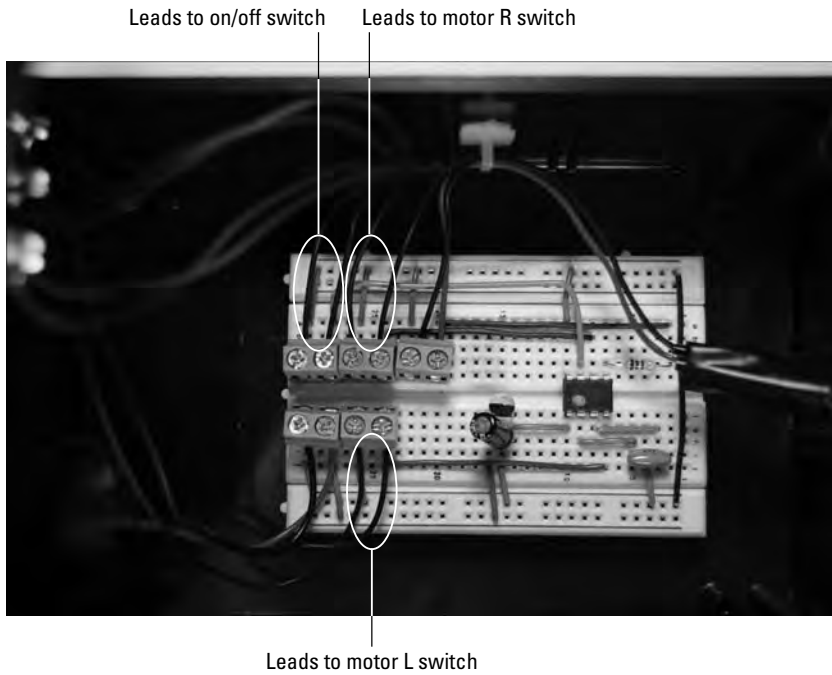

Figure 11-20:
15. Attach the wires from the switches to the terminal blocks, as shown in Figure 11-20.